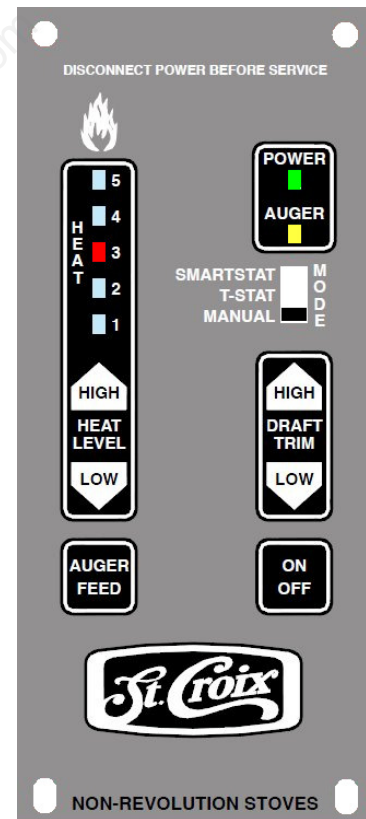

Figure 18
A closer look at the Control Board to the right in figure 18 will explain how the board works.
2. Push the On/Off button on the control board. (See figure 18 on page 26)